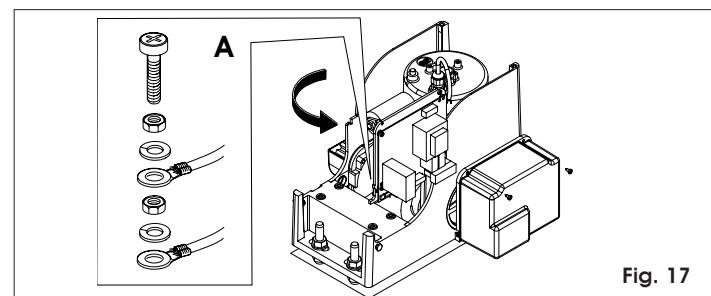

Fig. 17
Connect the earth cables as shown in figure 17 Ref.A.
- 1) Raise the equipment support and turn it through 90° (Fig.17).
- 2) Remove the protective cover of the equipment, unscrewing the two supplied screws (Fig.17).